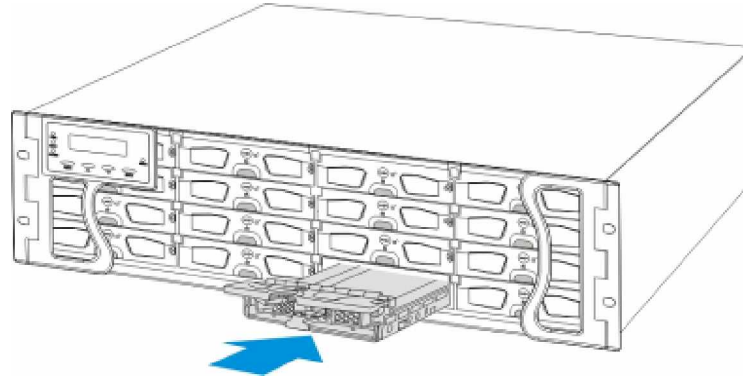

Figure 2-7: Installing a Drive Tray
**Step 3. Align the drive tray with the slot** in which you wish to insert it. Make sure that it is resting on the rails inside the enclosure, and then gently slide it in. This should be done smoothly and gently. (See **Figure 2-7**)